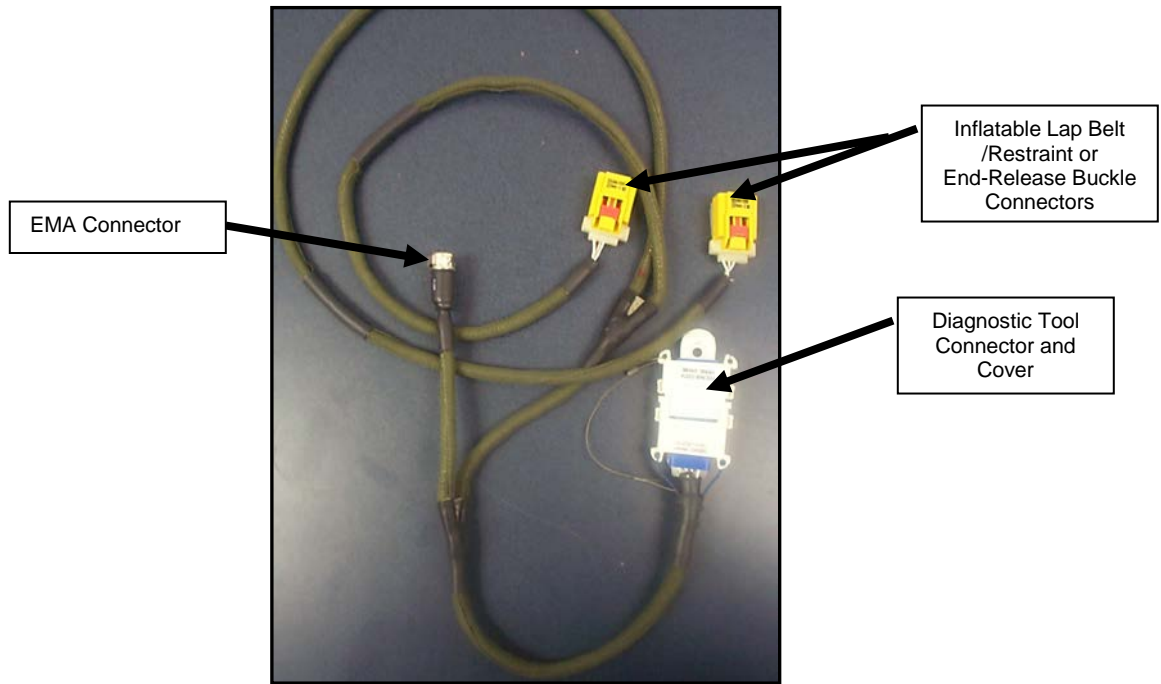

Figure 7: Cable Interface Assembly – Double Seat
- (1) Enabling Switch System: The Cable Interface Assembly (Figure 7) connects the Inflatable Lap Belt or Restraint Assembly or End-Release Buckle to the EMA. Cable lengths are unique to each seat and dependent on the location of the EMA and Inflatable Lap Belt or Restraint Assembly.
- (2) The Cable Interface Assembly attaches to the EMA via a connector located on the EMA pigtail cable (Figure 7).
- (3) A diagnostic connector is attached to a leg of the Cable Interface Assembly. This connector is used to interface with the SDT.
- (1) To maintain the battery life of the system, there are no self-annunciating diagnostics in the EMA that can negatively impact battery life. A SDT is provided to test the status the AmSafe Seatbelt Airbag. This portable device has been designed for use by personnel after system installation and airline maintenance personnel at predetermined intervals (every 4000 flight-hours).
- (2) The SDT is connected to the EMA at the diagnostic connector (Figure 7) to initiate the diagnostic check. The tool provides a pass/fail indication for each seat position. The SDT has a built-in power supply (common 9-volt battery) that does not drain the AmSafe Seatbelt Airbag battery. The SDT battery is replaceable by the user with a standard commercially available 9-volt battery.